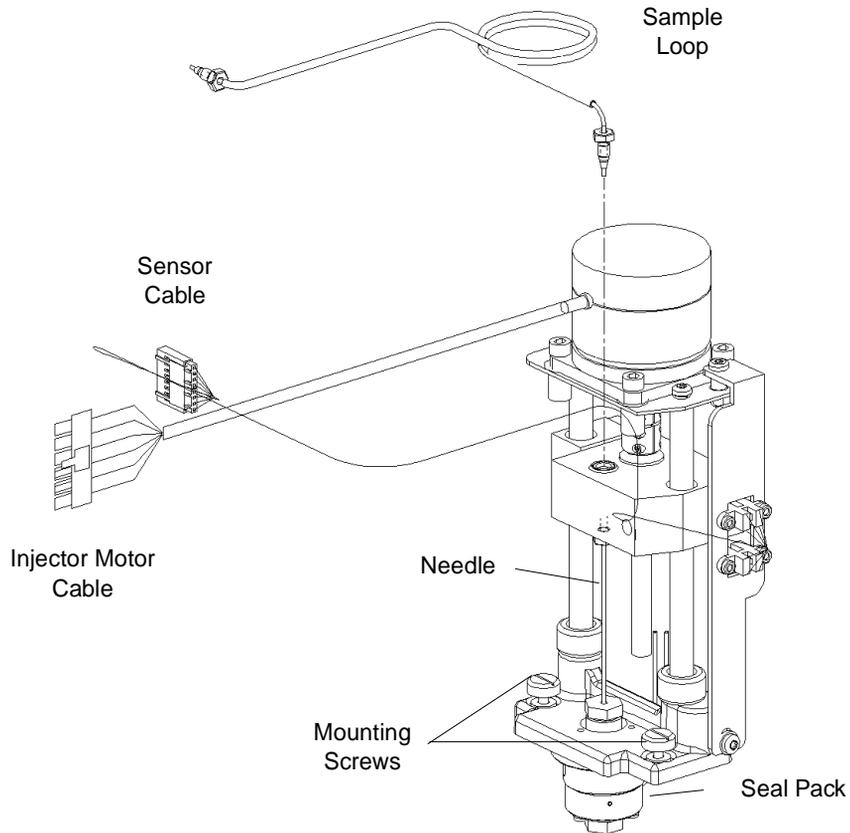

Figure 7-12 Removing the Injector
| Needle (see <a href="#">Figure 7-12</a> )    | Perforates the sample vial caps, draws sample, and injects the sample into the fluidic path.                     |
| Seal Pack (see <a href="#">Figure 7-12</a> ) | Contains high-pressure seals and the needle wash system.   |
3. Disconnect the injector motor and sensor cables from the circuit board (Figure 7-12).
4. Use the long flat-blade screwdriver to loosen the two mounting screws securing the injector to the floor of the sample compartment (Figure 7-12).
5. Disconnect the sample loop from the injector (Figure 7-12).
6. Attach the injector to the floor of the compartment by tightening the two mounting screws (see Figure 7-12).
7. Connect the injector motor and sensor cables from the circuit board (see Figure 7-12).